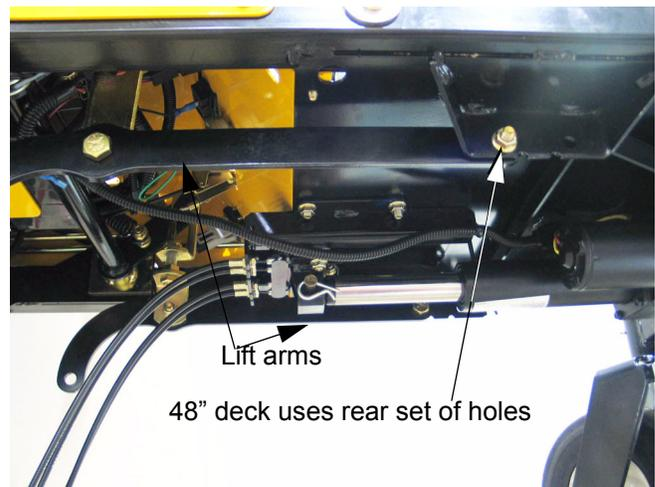

Figure 14.3
- 14.3. Disconnect the front of each lift arm from the mower frame using a 9/16" wrench and a 3/4" wrench. See Figure 14.3.